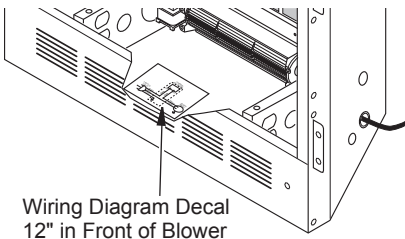

Figure 28 - Location of Wiring Diagram Decal (Model May Vary From Illustration)
10. Peel off backing paper and stick supplied wiring diagram decal on firebox bottom approximately 12" in front of blower (see Figure 28).
11. Peel off backing paper and stick supplied wiring diagram decal on firebox bottom approximately 12" in front of blower (see Figure 28, page 21).